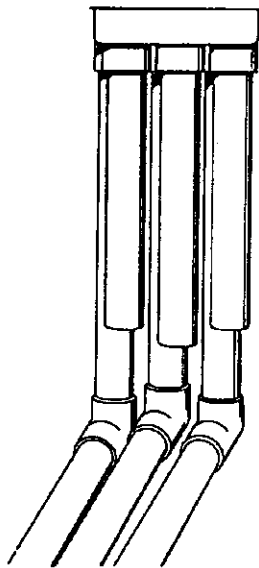

Figure 12-2
5. See Figures 12-2 through 12-4 for the sequence and configuration for plumbing the balance of the assembly so that when finished, all the return lines lie flat in the trench and are lying in their proper firing sequence.